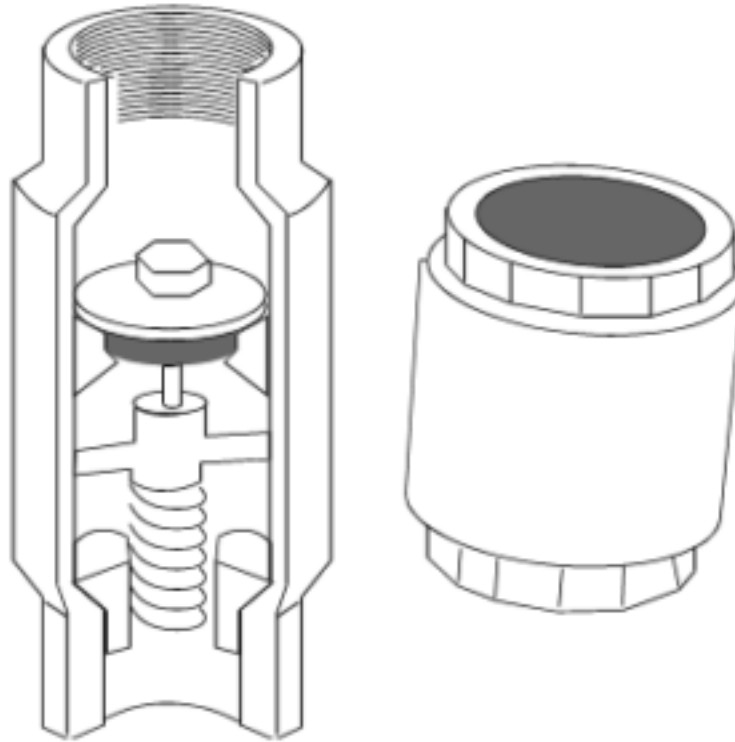

Figure 18. In-line check valve
Submersible pumps do not use foot valves; instead a check valve is usually built into the discharge side of the pumps. If the pump does not have a built-in check valve, a spring-loaded inline check valve should be installed in the discharge line within 7.6 m (25 ft) of the pump and below the drawdown level of the water supply (Figure 18). The check valves on a submersible pump is used to hold pressure when the pump stops. They are also used to prevent backspin, water hammer and upthrust. Any of these or a combination of them can lead to immediate pump or motor failure, a shortened service life or operating problems in the system.
- Figure 18. “Inline check valve” from SkilledTradesBC is used for educational purposes under the basis of fair dealing.